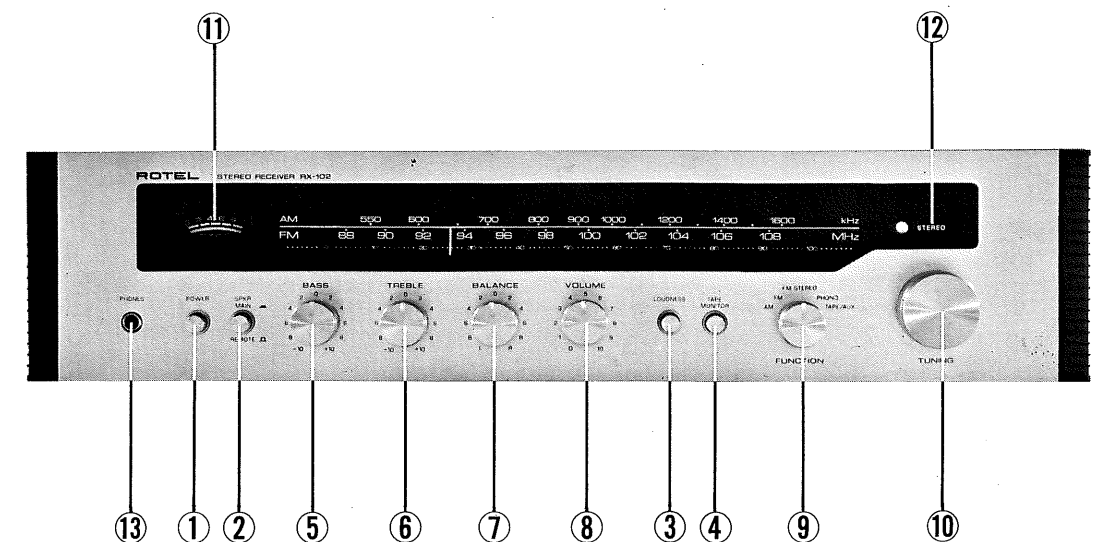

Fig. 2 Locations of the switches and controls
**Note:** Refer to Fig. 2 and Fig. 3 for visual guide to proper connections.